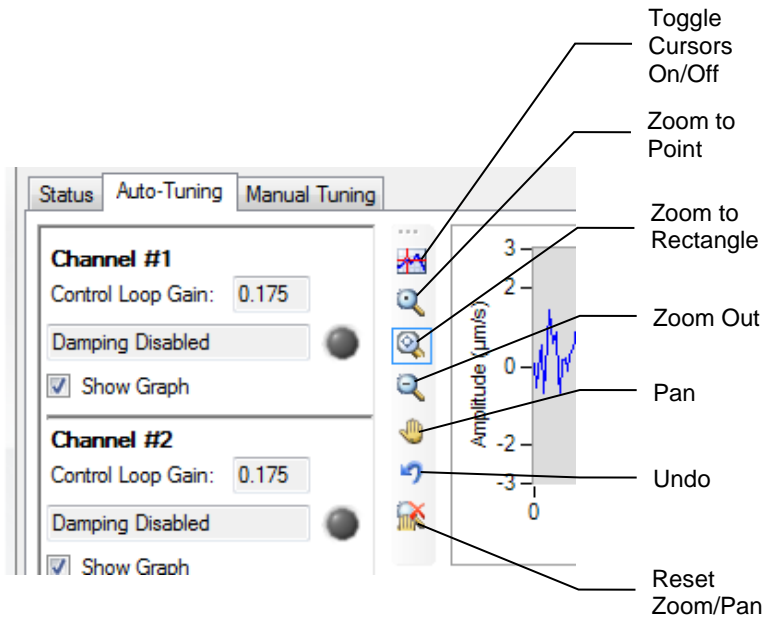

Figure 33 ST-300 Graph Buttons
**Graph Buttons.** Use the buttons on the left side of each graph (Figure 33) to study the displayed data.